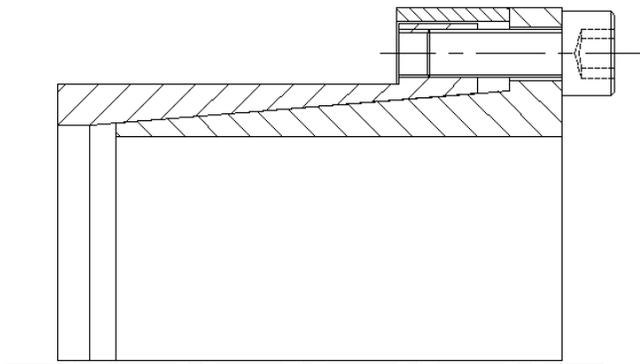

Figure 1
3. Insert CLIMAX Series C170 into component bore, then transfer screws used to separate collars back to their original position (see Figure 1).